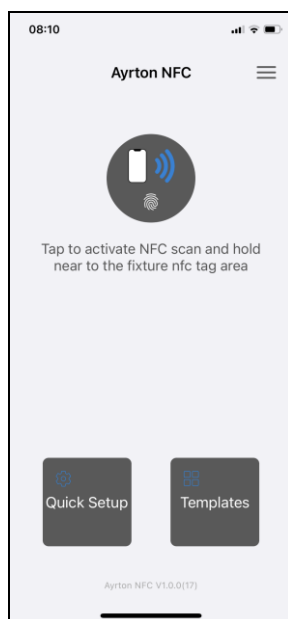
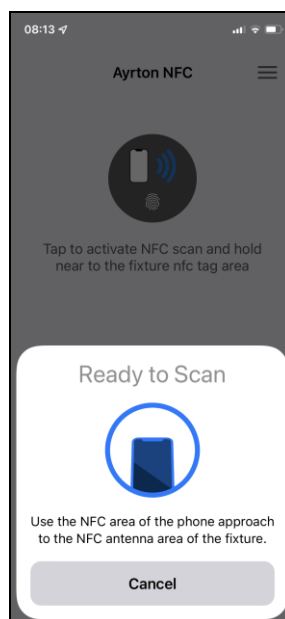
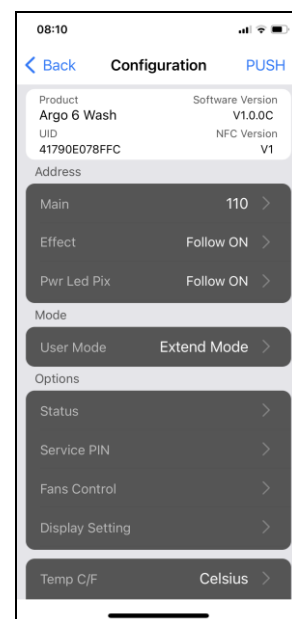

Figure 1
Figure 2
Figure 3
- 1) Open the Ayrton NFC App (as shown in Figure 1), tap the button to activate NFC scan (Figure 2), place the NFC scan area of your mobile phone close to the NFC tag area of the fixture, it will show the setting and configuration page after reading successfully (Figure 3).